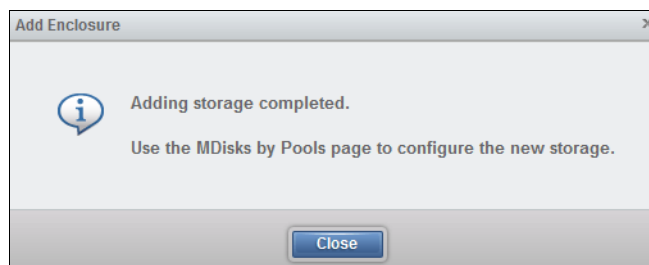

Figure 2-42 Adding storage completed
5. When the new enclosure is added, the storage that is provided by the internal drives is available to use as shown in Figure 2-42.